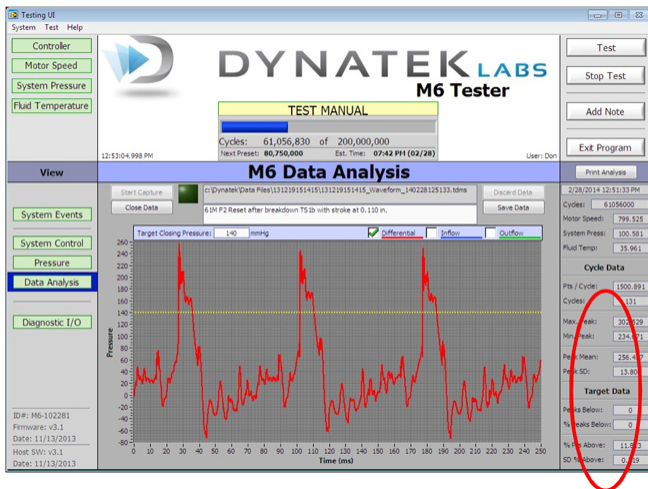

Fig. 4: UC software showing the Data Analysis screen. Red oval encloses Cycle and Target data.
Pressure transducers can be installed in M6 test sections holding sample artificial heart valves to let you monitor inflow and outflow pressure regimes that the valve is undergoing. The UC software allows you to capture these pressure data and generate a differential pressure waveform for any valve being tested, simply by pressing the 'Start Capture' button (Fig.4).
Proprietary technology in the UC's software allows powerful data analysis on the M6 (Fig. 4):
- **Analysis Results**- Statistical analysis of the data relating to differential pressure is displayed onscreen (Fig. 4).